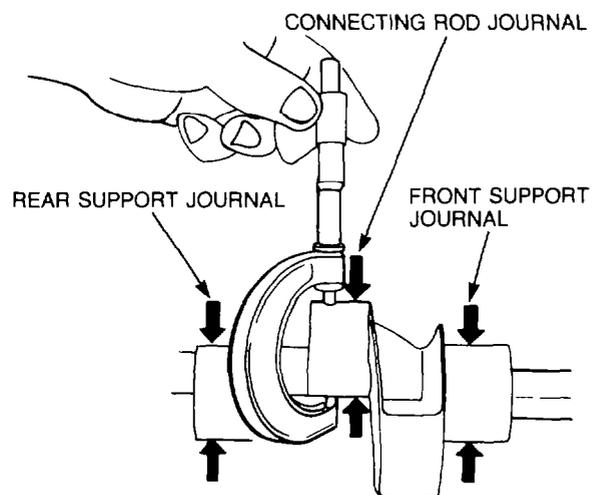

Figure 241 — Measuring Crankshaft Bearing Journals
- k. Inspect the crankshaft for scratches, scoring or any visible signs of wear, then measure the crankshaft using a micrometer at the points indicated in Fig. 241. Replace the crankshaft if the measurements are below the wear limits listed in Table 14.